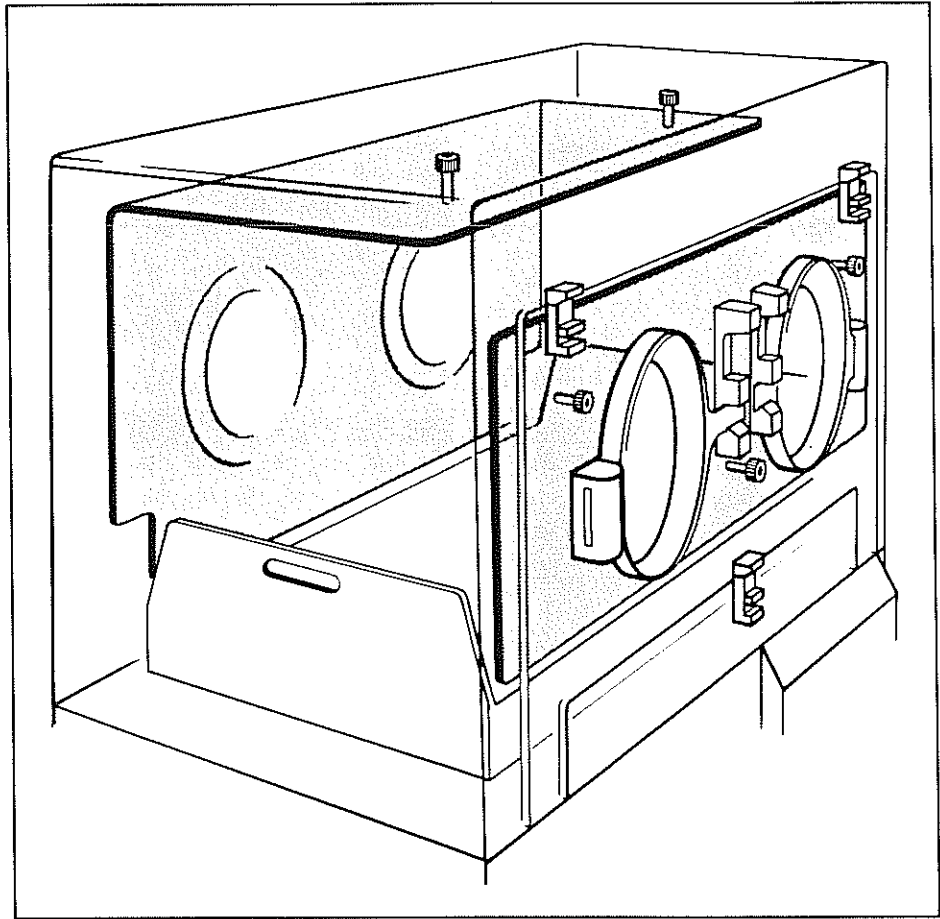

Fig. 16 Double wall system in the hood of Intensive-care Incubator 7520
3.5.3 Double wall system (Fig. 16, P. 8)